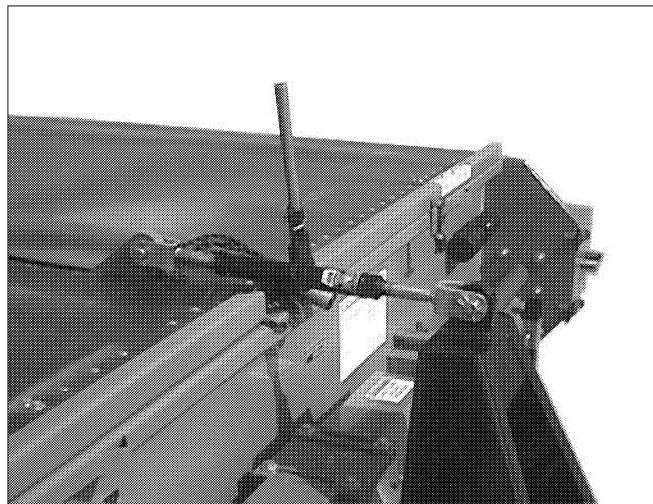

Figure 6 Hitch Ratchet
1. Use the ratchet or hydraulic cylinder on the hitch (Figure 6) to level the frame in the direction of travel.